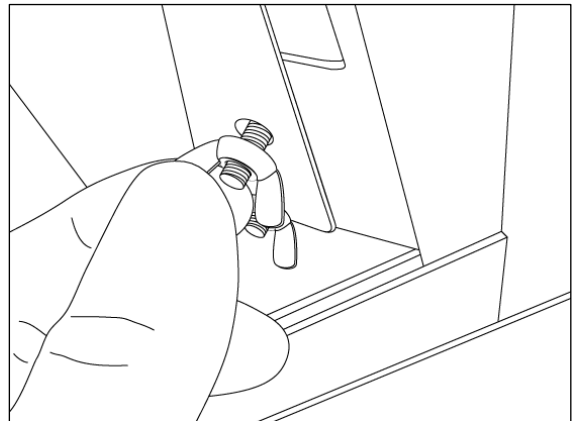

Figure 6-3
4. Remove the two wing nuts on the halogen light bulb support bracket in order to access the halogen light bulb (Figure 6-3).